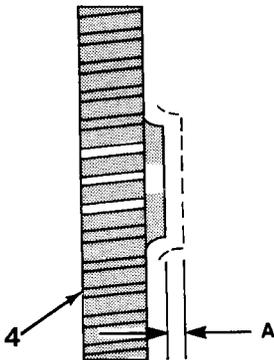

Figure 6-16
13. Position dial indicator on camshaft gear (4, Figure 6-16),
14. Using dial indicator, measure camshaft end play. Camshaft end play limits (A) are 0.007 to 0.011 in. (0.18 to 0.28 mm).